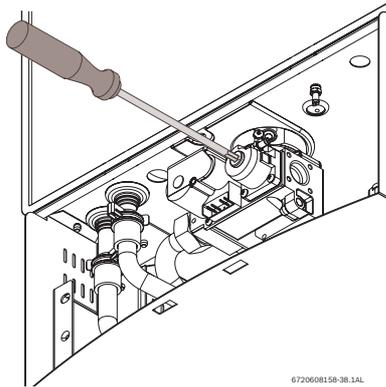

Fig. 64 Adjusting P2 CO₂ level
- ▶ Remove yellow painted #40 Torx cover from the front of the gas valve. (Fig. 64) A plastic #40 Torx screw will be revealed.